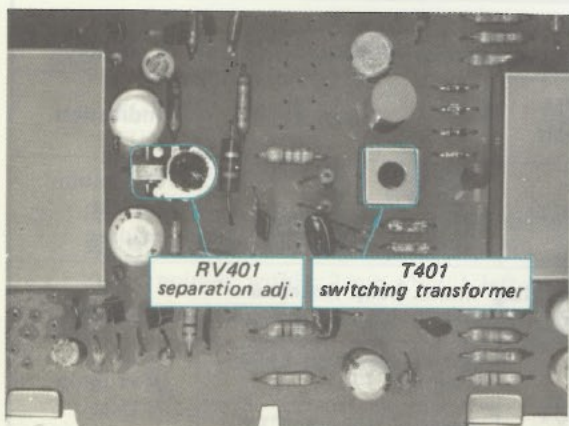

Fig. 3-7. Adjustment parts location
1. Precisely tune the receiver to the carrier frequency of stereo signal generator, then turn the top core of switching transformer T401 (see Fig. 3-7) to obtain maximum output at the left channel. Note that this adjustment has a close relationship with stereo distortion.
4. The output-level to residual-level ratio represents the separation. Adjust separation adj. control RV401 (see Fig. 3-7) for minimum residual level. Check the right channel for separation. Usually, about an 8 to 9 dB difference in channel separation exists. Readjust RV401 for minimum difference between left- and right-channel separation. While doing this, remember that the output level also changes according to the setting of RV401.